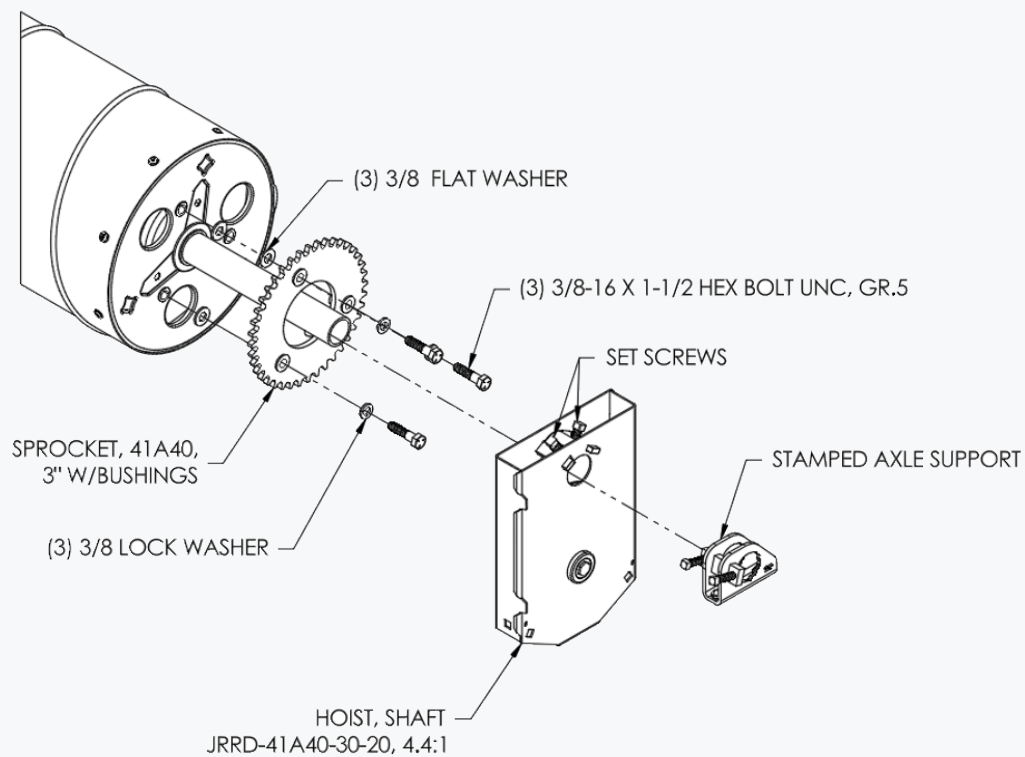

figure 9: Chain Hoist 4.4:1
- ✦ Attach Sprocket to drum using (3) 3/8" flat washers, (3) 3/8" lock washers, and (3) 3/8-16 x 1-1/2" hex bolts as shown in **Figure 9**.